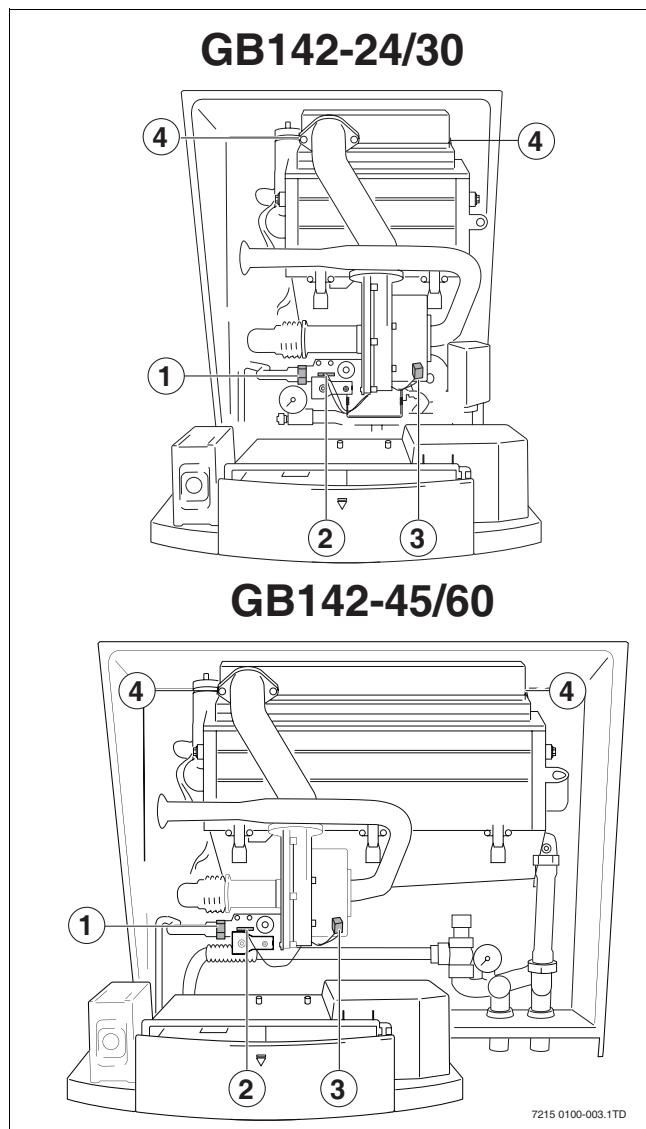

Fig. 3
- Loosen the screw connection on the gas valve (→ fig. 3, [1]) and pull the plug (→ fig. 3, [2]) from the gas valve.
- Pull both plugs from the fan unit (→ fig. 3, [3]).
- Loosen both retaining clips (→ fig. 3, [4]) on the burner cover and remove the burner cover together with the fan unit and the gas valve.